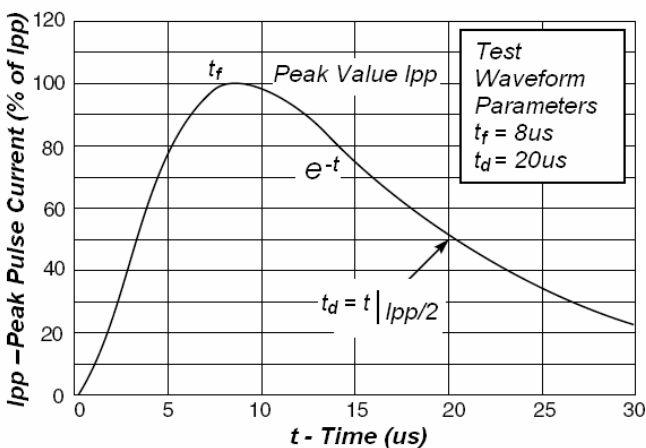

Fig2. Pulse Waveform
*Surge current waveform per Figure 2.